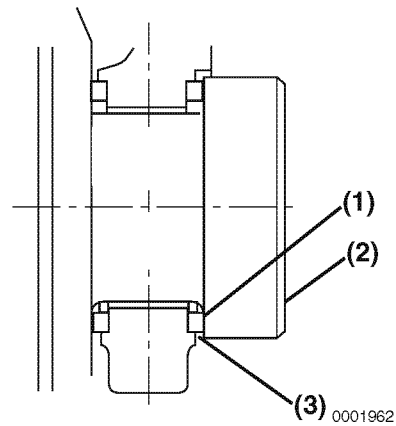

Figure 6-106
- **Method B:** Use a feeler gauge to measure the clearance (**Figure 6-106, (3)**) between the thrust bearing (**Figure 6-106, (1)**) and crankshaft (**Figure 6-106, (2)**). Record the measurement. See *Thrust Bearing* on page 6-13 for the service limit.